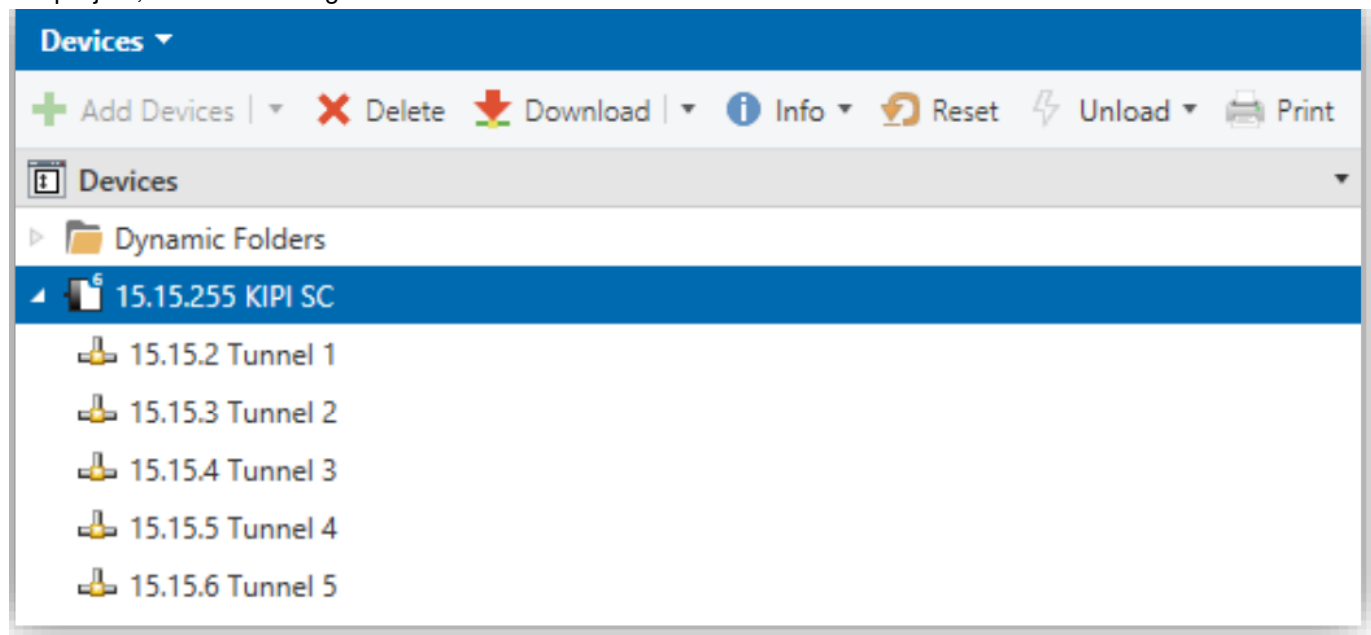

Figure 7. Set tunneling addresses.
15.15.251, 15.15.252, 15.15.253 and 15.15.254, all of them can be configured in ETS after adding the device to the project, as shown in Figure 7: